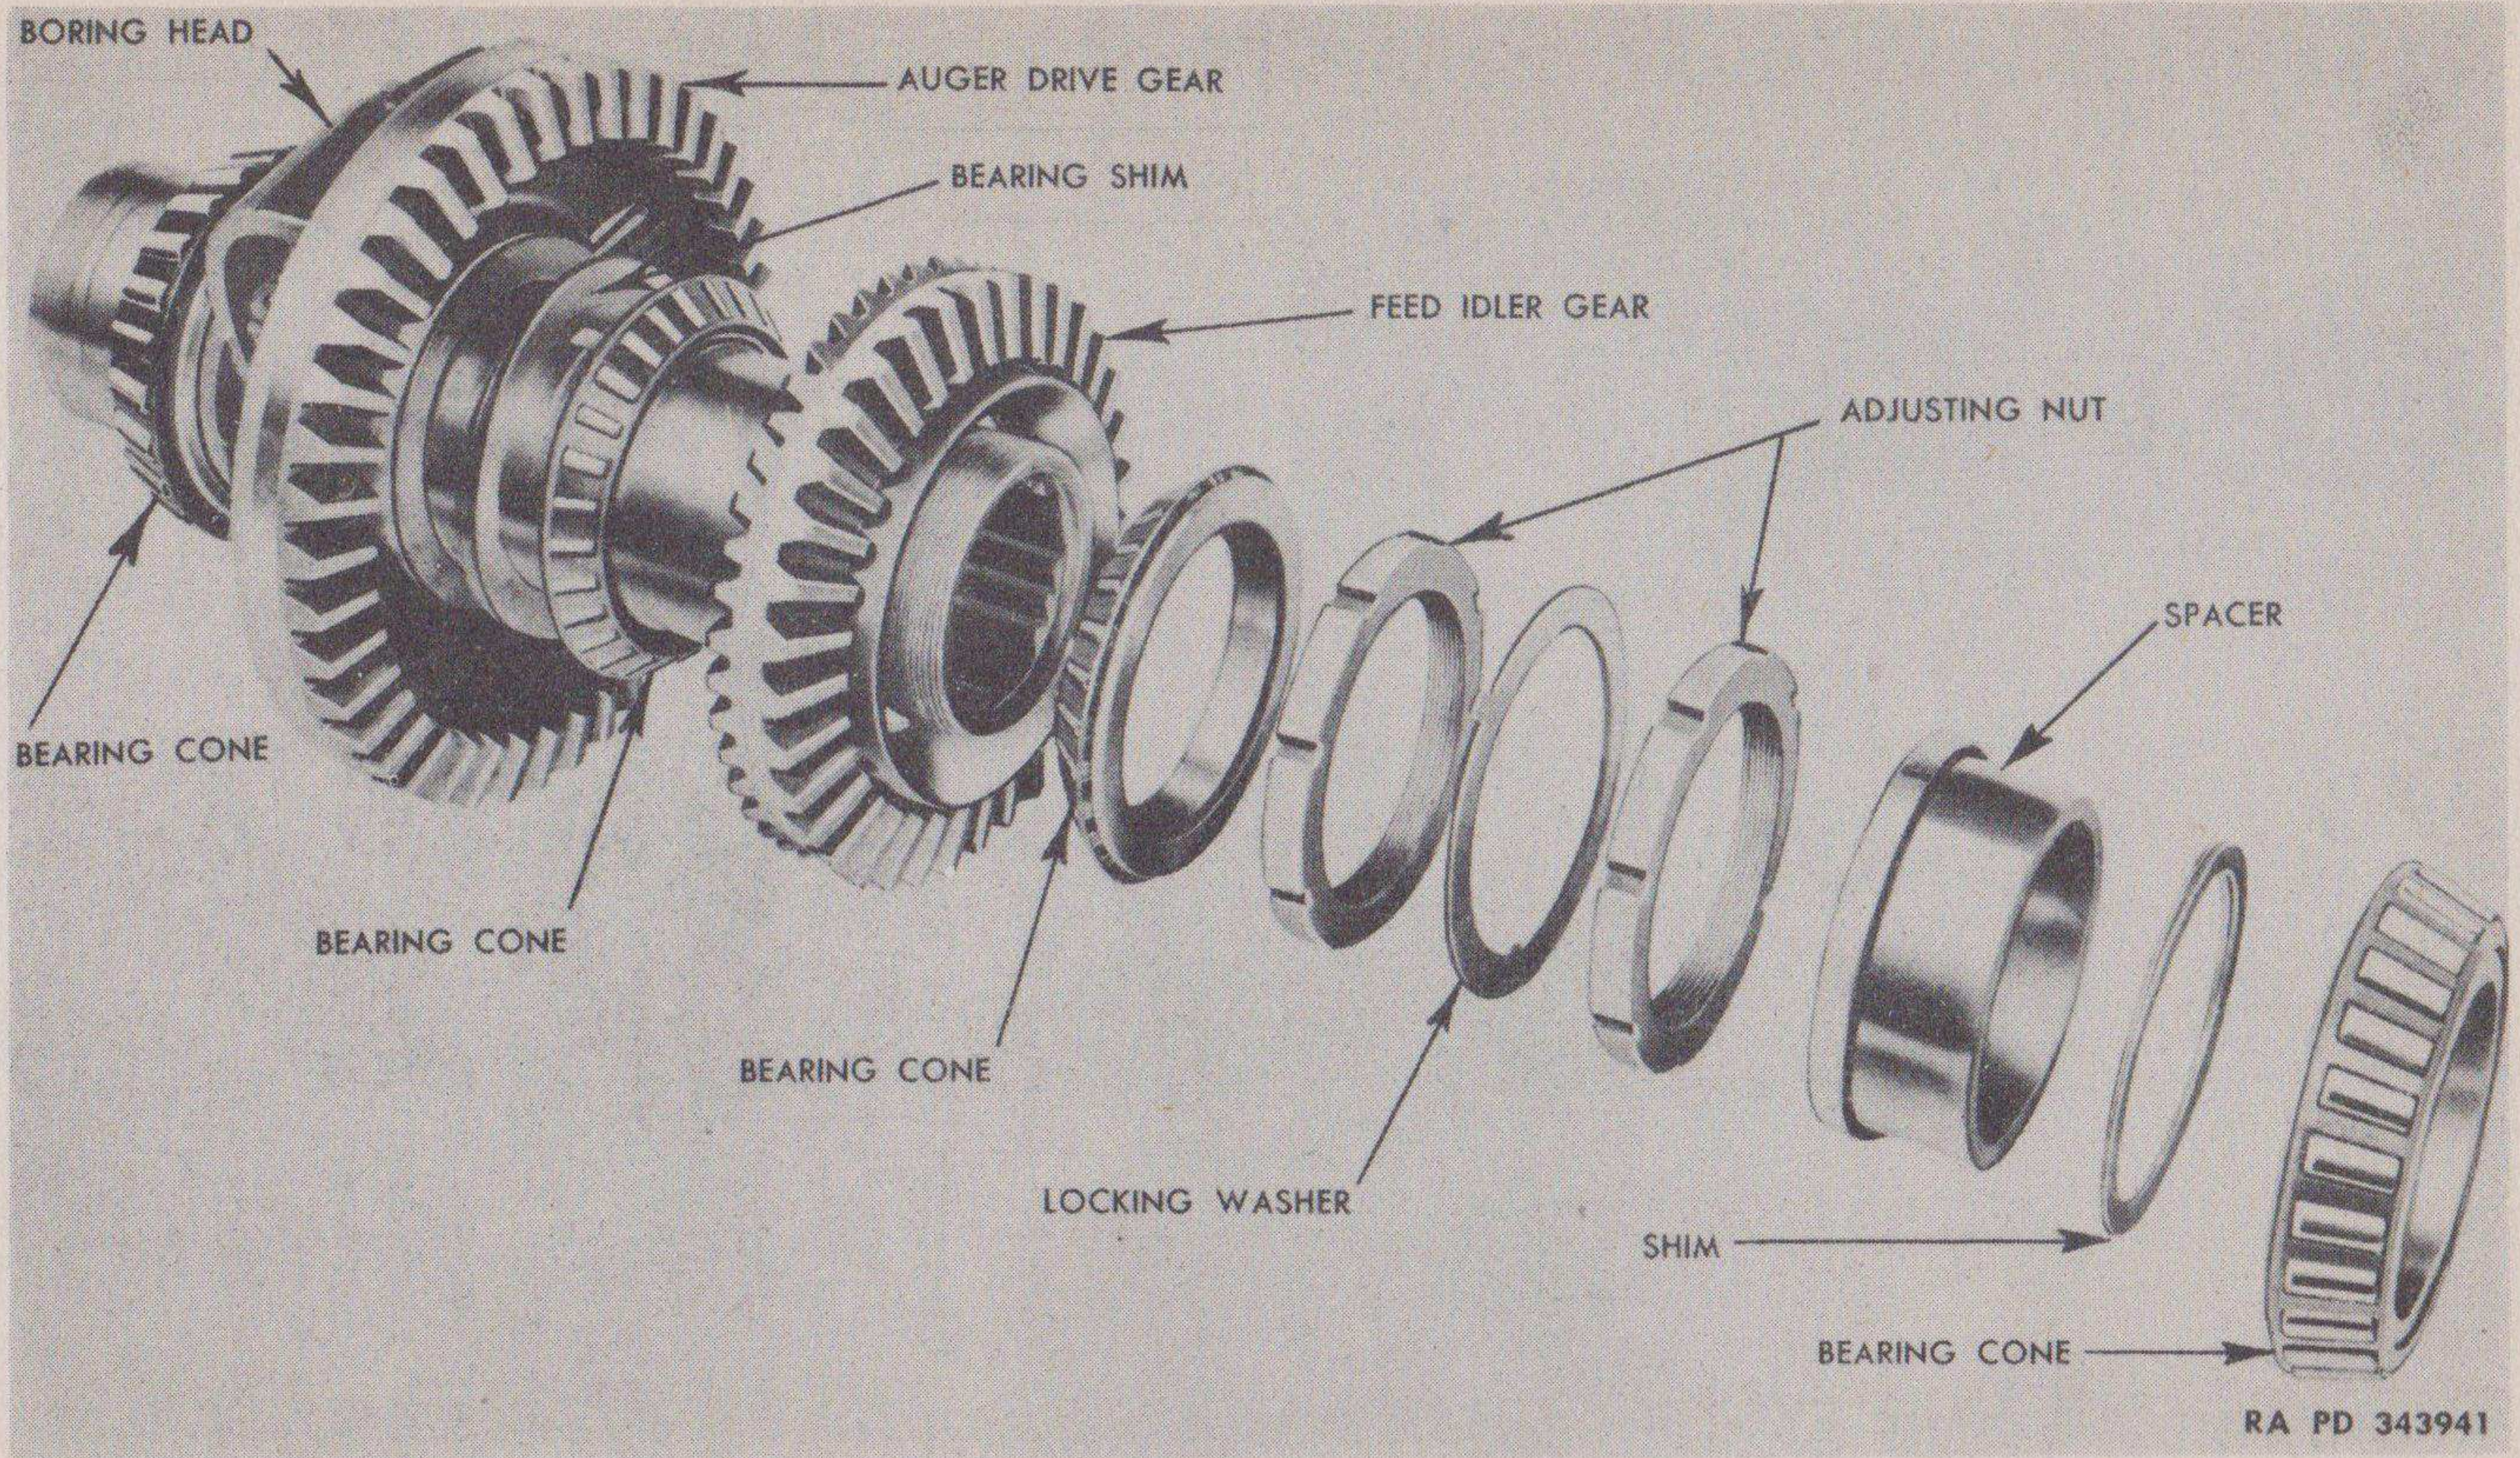

Figure 80—Boring Head Assembly, Disassembled
(4) Remove lower bearing, shims, and bearing spacer (fig. 80) from boring head. Check the number and thickness of shims for reference when reassembling.
(5) Raise lips of feed idler gear adjusting nut locking washer. (See fig. 80.) Using a large spanner wrench, remove the adjusting nuts. Remove the feed idler gear and its bearings from the boring head.
Note. Check the number and thickness of shims between the feed idler gear upper bearing and boring head for reference when reassembling. (See fig. 80.)
90. ASSEMBLY AND INSTALLATION.**a. Assembly of Boring Head Assembly (fig. 80).**
(1) Assemble the same number and thickness of shims ahead of the upper feed idler gear bearing cone. (See fig. 80.) Install upper bearing cone, feed idler gear, and lower bearing cone, using one of the adjusting nuts to hold bearing cones and gear in place. Turn the nut snugly against the lower bearing cone, but not tightly enough to injure it. Before continuing with the reassembly, check the mesh and backlash between the teeth on the feed idler gear, and the feed bevel spur pinion. There should be just a slight amount of backlash or play between the teeth, and the feed idler gear should be rotated to be sure that the backlash is equal at all points. To adjust the feed idler gear for backlash with pinion, add or remove feed idler gear bearing shims as necessary. When satisfactory adjustment is accomplished, replace feed idler gear bearing adjusting nut locking washer, and lower feed idler gear adjusting nut. Tighten nut securely, and bend over tangs of locking washer to lock the bearing nuts. Install spacer, lower bearing shim, and lower bearing cone; replace complete assembly in the boring case.
(9) Assemble thrust roller and bearing into position (fig. 80) through bearing cap opening, and drive thrust roller shaft through thrust roller bearing. Assemble bearing cap and nut, and secure with cotter pin.